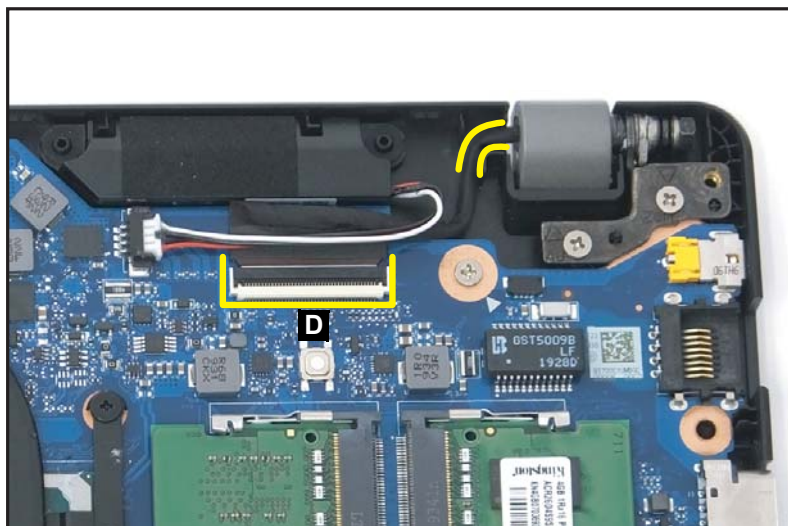

Figure 1-37. LCD Module Removal
7. Disconnect the eDP cable from the mainboard connector (D) (Figure 1-37).
8. Unroute the eDP cable from the guide on the top assembly (Figure 1-37).